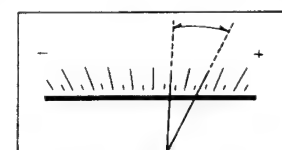

Fig. 19
- At this time, confirm that the level meter indication is within a range of -1dB to +1dB (shown in fig. 19) (Confirm this for both L and R channels.)